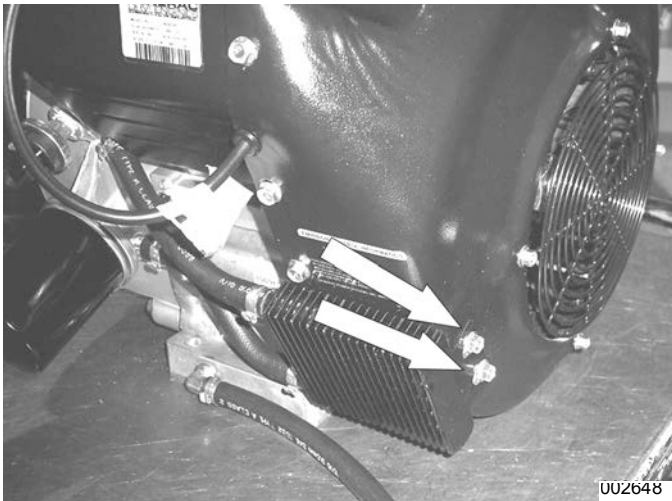
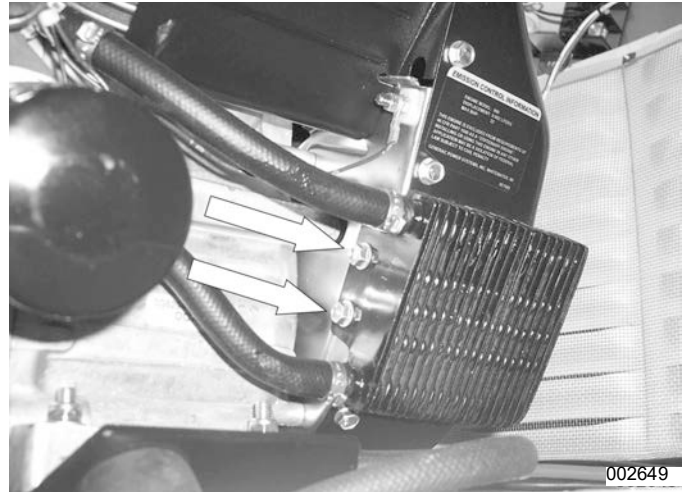

Figure 4-16.
Figure 4-17.
11. **Unbolt Oil Cooler:** See Figure 4-16. Use a 10 mm socket to remove the two 10 mm bolts from the front of the oil cooler. See Figure 4-17. Remove the two 10 mm bolts from the rear of the oil cooler.